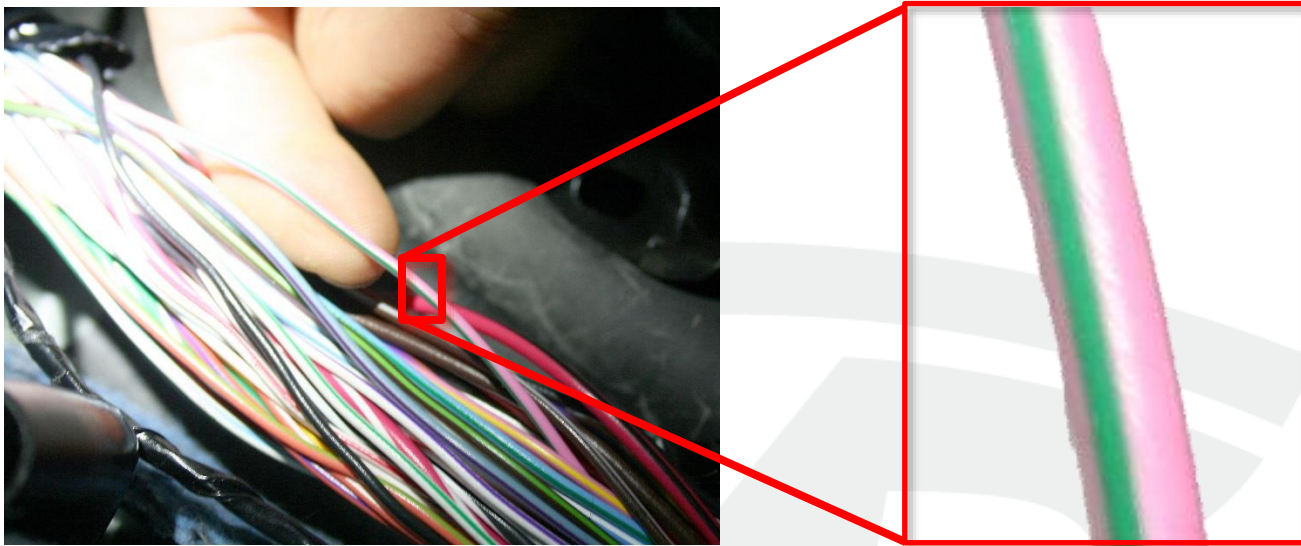

Figure 18
15. Identify the pink wire with a green stripe (Figure 18).